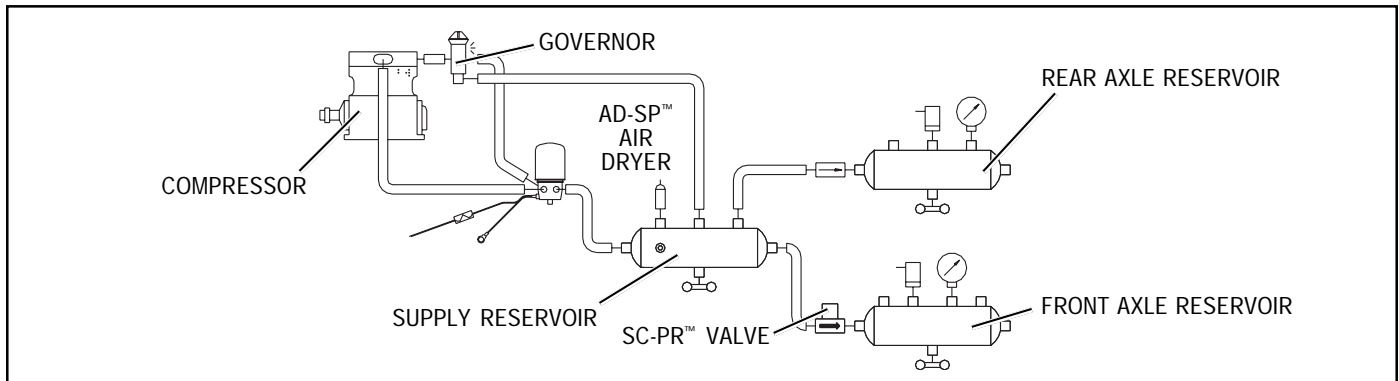

FIGURE 12 - AIR SYSTEM WITH AD-SP™ SYSTEM PURGE AIR DRYER
- Locate the single check valve that protects and isolates the front axle reservoir and remove it. Remove the air line fitting from the single check valve and install the same fitting in the SC-PR™ valve. Install the SC-PR™ valve and fitting in the reservoir port that was formerly occupied by the single check valve. Reconnect the air line to the SC-PR™ valve. Refer to Figure 12.